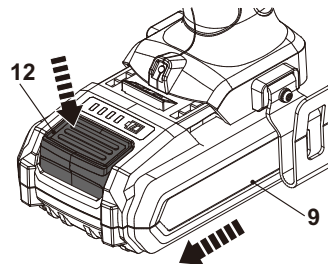

Fig. 3
3. Press the release button (9c) and slide the battery pack (9) from the battery docking port (9a) (Fig. 3).